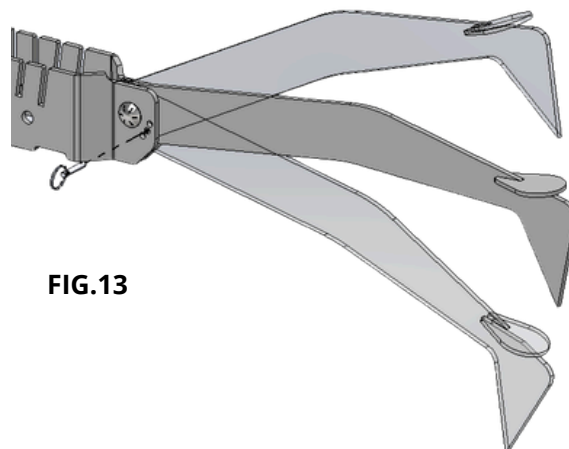

FIG. 13
- Adjust using the Front Leg Quick Pin Adjustment. Before doing this, you should remove the center column as it is too heavy to adjust with it and the paddles installed. Remove the 1" Quick Pin, adjust the angle, and re-install the Quick Pin. There are 3 locating holes in the front base and 6 holes in the front foot; this gives you adjustment in intervals of 5 degrees each. Use the front foot and the adjustment holes to adjust the stand angle, as shown in FIG. 13